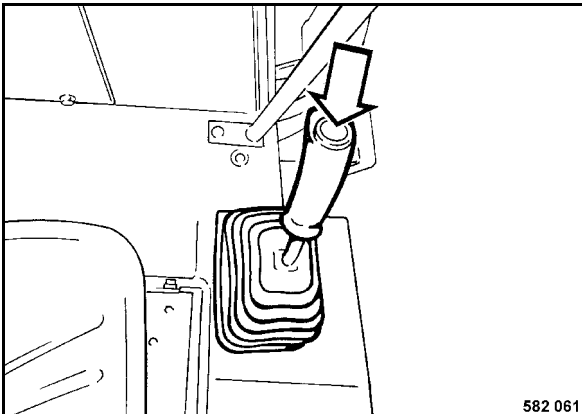

Fig. 44
- Press the push button (Fig. 44) in the travel lever while driving, the drum will vibrate.